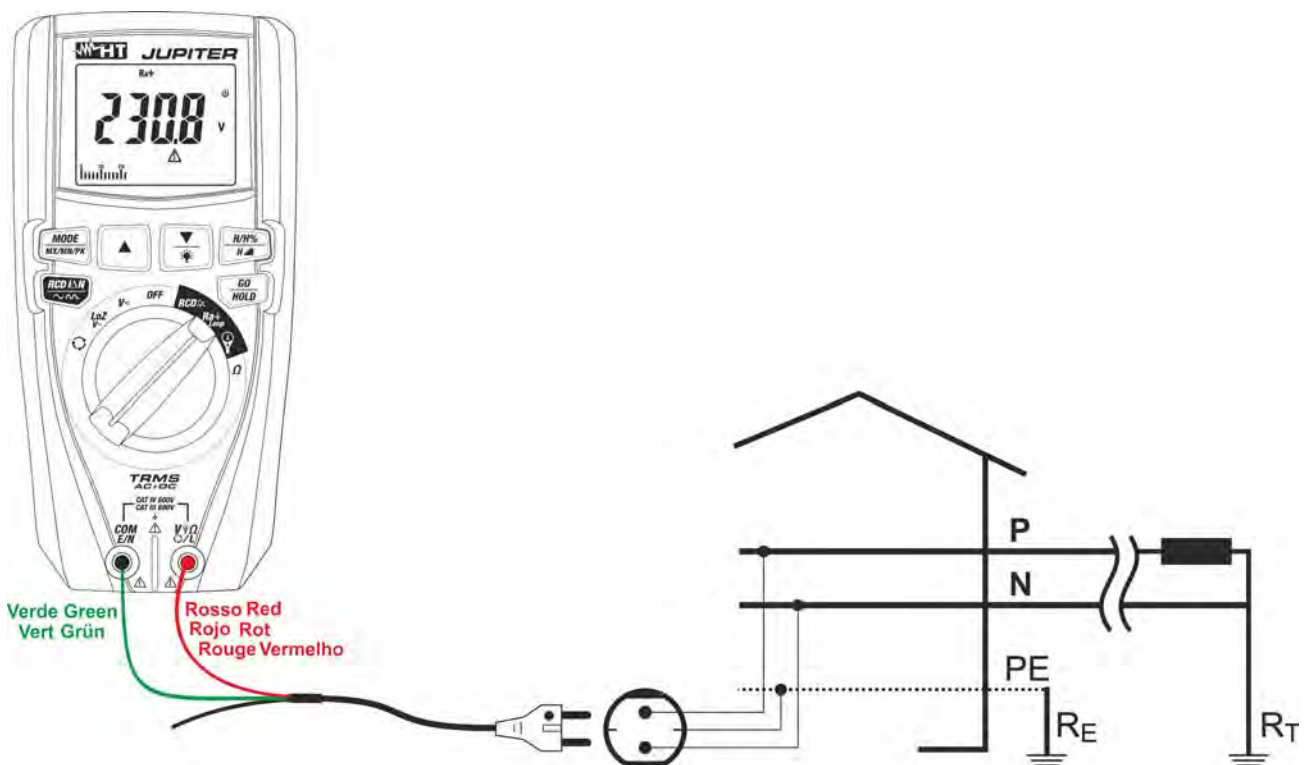

Fig. 23: Use of the instrument for measuring Loop L-PE impedance with cable provided with Schuko plug
5. **For Loop L-PE measurements**, in case the cable with Shuko plug is used, insert the red conductor into input terminal **V $\Omega$ OL** and the green conductor into input terminal **COM/E/N** and connect the instrument to the system to be tested (see Fig. 23). The value of voltage Phase-Earth is shown on the display